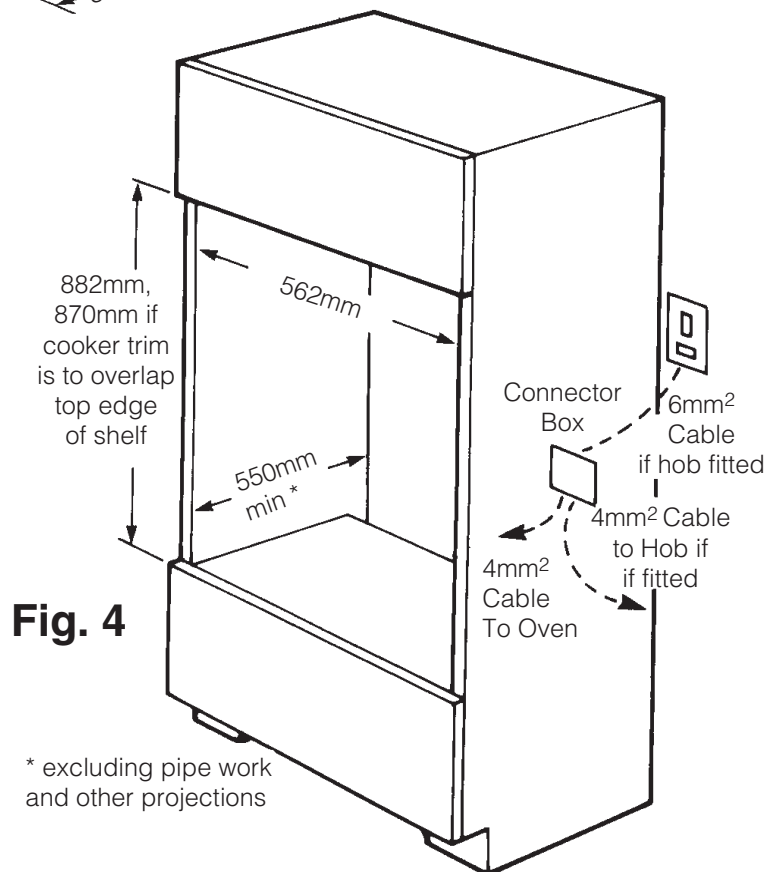

Fig. 4
In all cases adhere to routing details (see fig. 4).
- a. The oven housing unit cabinet dimensions must comply with fig. 4.